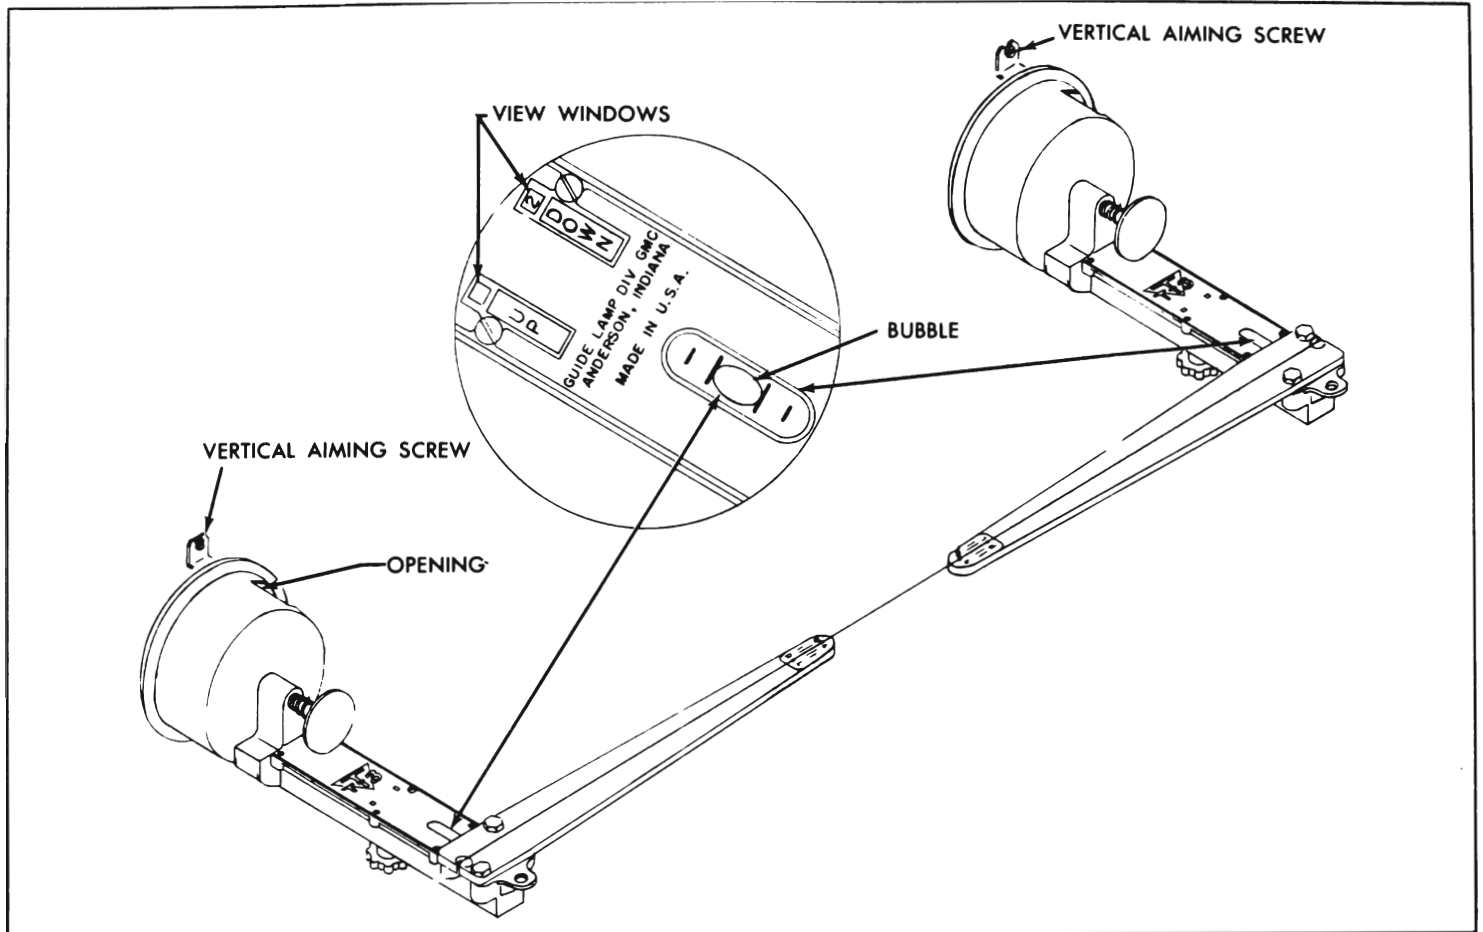

Figure 10-58—Adjusting Vertical Aim
1. The bubble should be within the two outside lines of the level on the aimer. If bubble in level does not fall within these limits it is necessary to adjust vertical aim by turning vertical aiming screw counterclockwise until the bubble in level is at the end of vial toward headlamp unit. Then turn screw clockwise until bubble is centered in the level. See Figure 10-58.